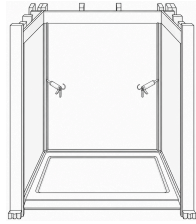

Fig. 31: Caulk the inside seams
6.  **Caulk the inside seams.** Apply a bead of 100% clear or T200 color-matched silicone sealant to all inside seams (Fig. 31).